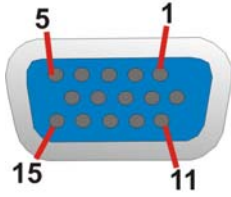

Figure 4-25: VGA Connector
- CN Pinouts:** See **Figure 4-25** and **Table 4-25**